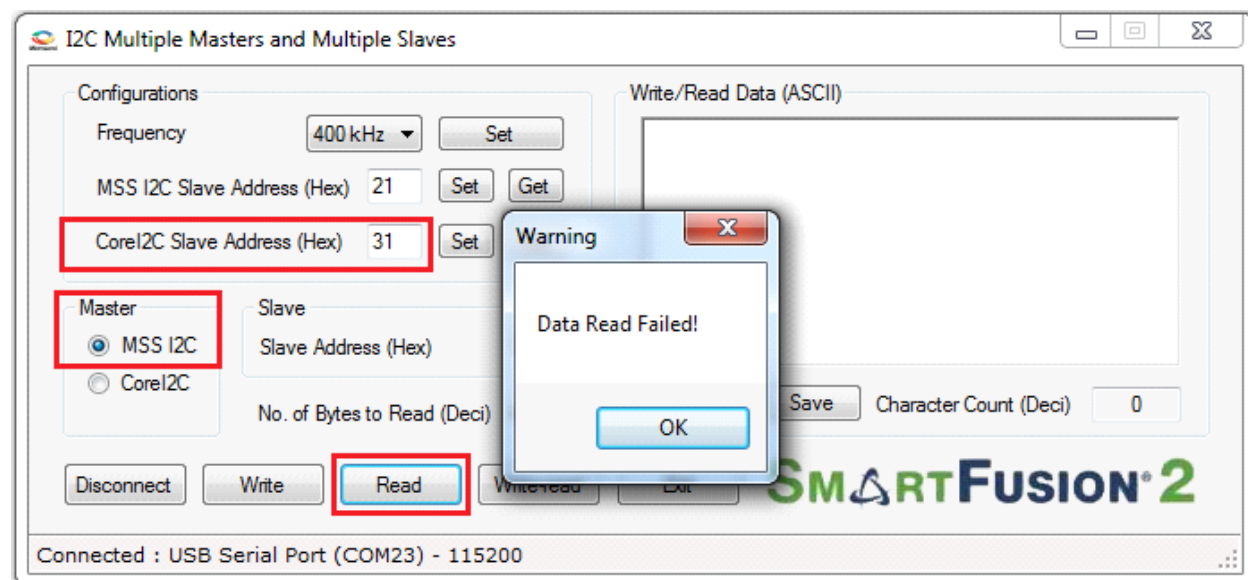

Figure 19 • Read Error
3. Read or write error occurs due to the non-availability of the selected Slave or due to connection problem. To validate error detection, one of the I²C Slaves SDA line must be removed from the SmartFusion2 Security Evaluation Kit board. Remove either I²C Header - H1 (7) or GPIO Header - J1 (62) pin and perform an I²C transaction. Figure 19 shows the read error message when the MSS I²C Master tries to read from the CoreI2C Slave.
4. Connect the removed flying lead to GND and perform an I²C transaction to test the time out. Figure 19 shows the time out message when the MSS I²C Master tries to read from the CoreI2C Slave.